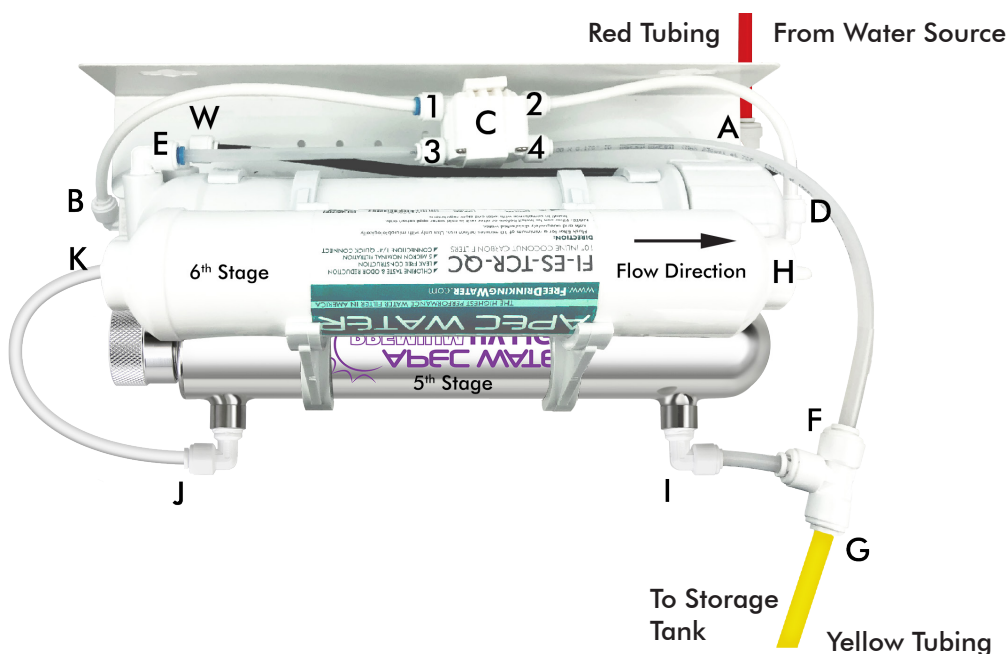

Fig. 18
- ASO connection Error —> See **Fig. 18** to reconnect ASO to the correct connection.
- Disconnect the water tubing at Stage 3 output **Point C1 (Fig. 18)** and aim the tubing at the bucket. **Point D** is the stage 4 RO filter inlet tubing.
When RO makes a humming noise, most likely it's caused by air bubbles being trapped in the "Check Valve" during installation. See check valve on **Fig. 18, point E (Page 29)**.